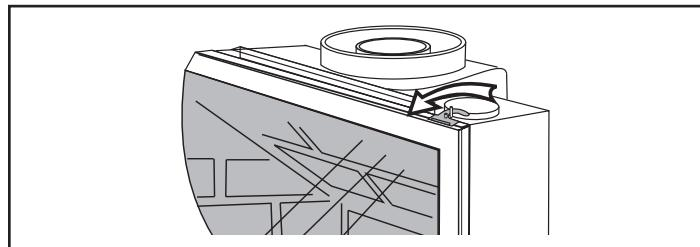

Figure 59 - Release the latches to release the glass frame.
1. Remove stove front. Lift stove front up and then swing bottom out and away to disengage from the stove body. (Figure 59)
2. Swing open the swiveling latches at the top left and right corners of the glass frame. (Figure 59)
Replace glass only with Hearth & Home Technologies approved parts. Refer to the "Replacement Parts" section of this manual. Refer to Figure 59 and previous instructions for removal of the damaged glass frame.
1. Remove the Front, Glass Frame and Glass Panel. (Figures 59 & 60) Remove the old gasket. Use a razor blade to separate the glass and gasket from the frame, and to clean the glass of any remaining cement or bits of gasket. Use a cold chisel if necessary.